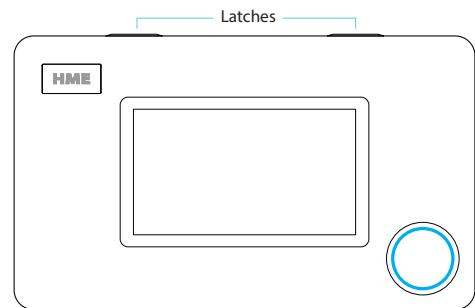

Fig. 2.2
3. There are two latches along the top side of the Base Station (see Fig. 2.2). Unlatch these to open the Base Station cover (the cover does not completely detach as it is hinged on the bottom side). Four mounting keyholes are visible, one at each corner through